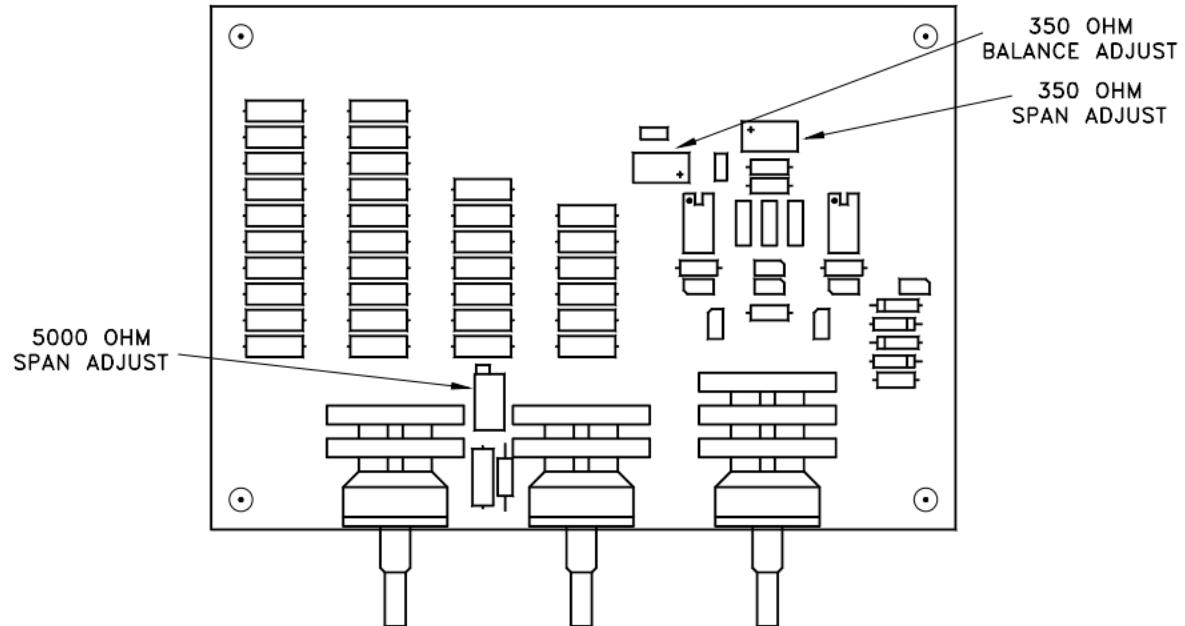

Figure 1-3: Internal Arrangement
6. Locate the “5000 Ohm Span Adjust” potentiometer on the circuit board (see Figure 1-3:“Internal Arrangement” on page 10). Adjust it so that the voltmeter reads as close to 10 mV/V as possible.
9. Locate the “350 Ohm Balance Adjust” potentiometer on the circuit board (see Figure 1-3:“Internal Arrangement” on page 10). Adjust it so that the voltmeter reads 0 μ V to within $\pm 2 \mu$ V.
12. Locate the “350 Ohm Span Adjust” potentiometer on the circuit board (see Figure 1-3:“Internal Arrangement” on page 10). Adjust it so that the voltmeter reads as close to 10 mV/V as possible.